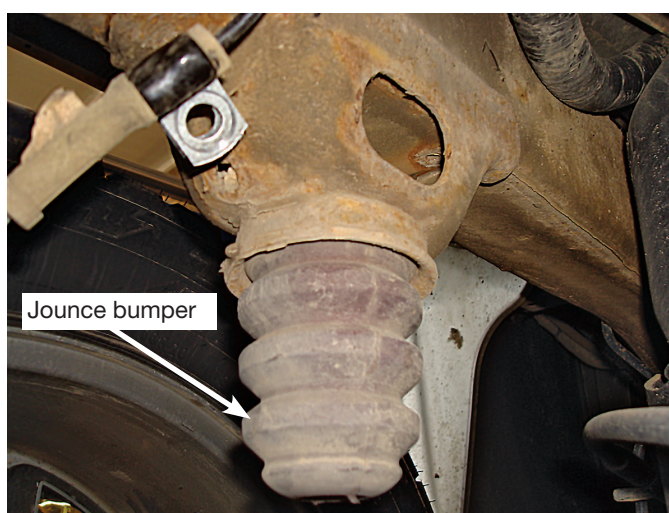

Fig. 11
17. Remove the jounce bumper by unbolting it from the jounce bumper mounting cup welded to the frame. Pull or pry the jounce bumper out of the cup with a screwdriver once the bolt has been removed (fig. 11).